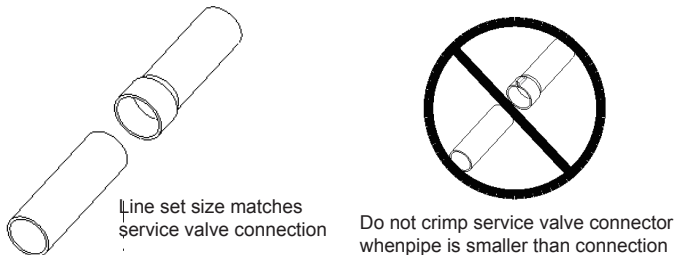

Fig.13
4.4.5 Connecting the Pipe at the Outdoor Unit Side (Fig.13)